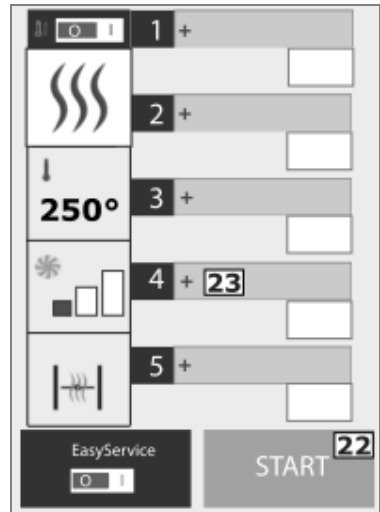

Fig. 33
Regardless of whether the program includes pre-heating or not, the first thing to do is start the program by pressing START (22, Fig. 33) .
After starting the program and at the end of pre-heating (if present), click on "+" symbol (key 23, Fig. 33) of each of the right hand boxes to add the name of the dish to enter in the selected level.